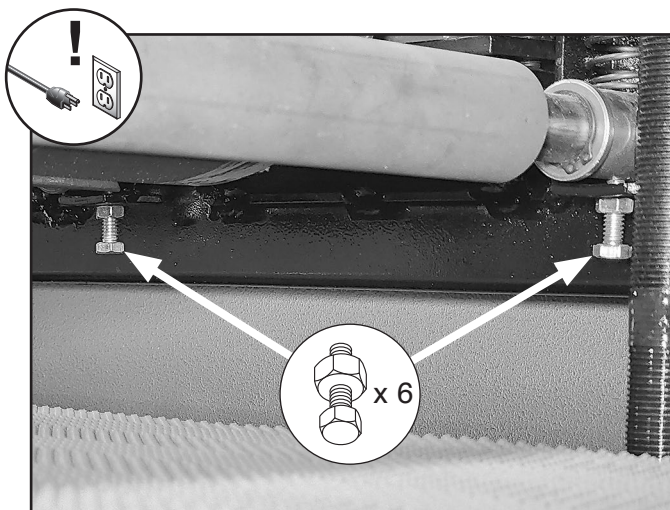

Figure 48. Location of pressure roller height adjustment bolts.
7. Loosen jam nut, then rotate adjustment bolt (see **Figure 48**) *clockwise* to raise pressure roller or *counterclockwise* to lower.